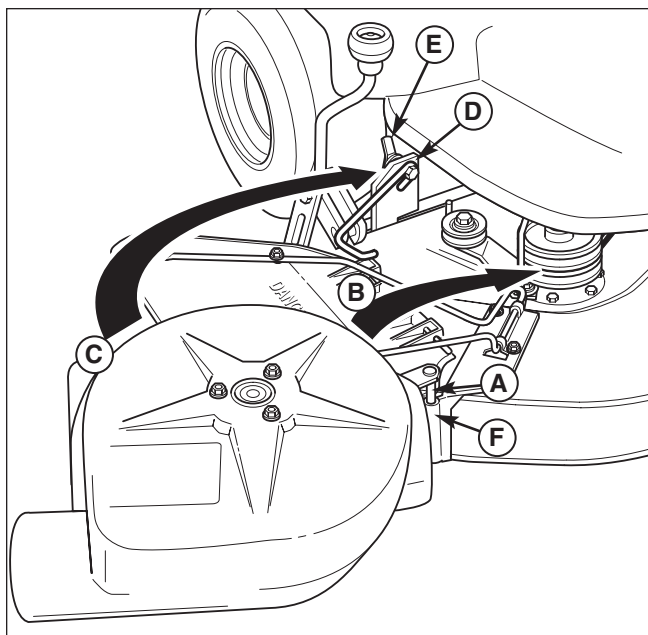
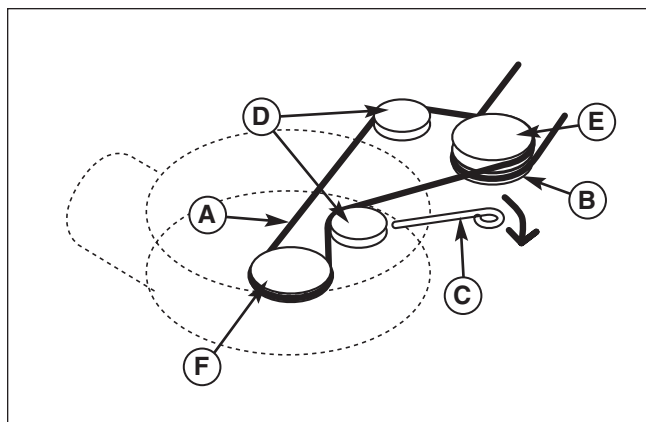
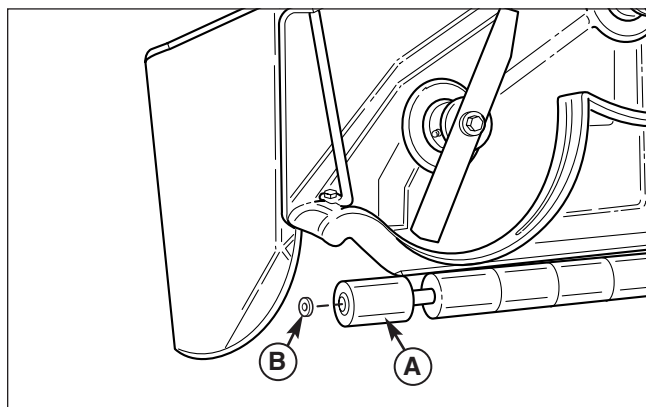

Figure 19. Install Turbo Blower
Figure 20. Turbo Belt Routing
Figure 21. Remove Right Side Pushnut and Roller
2. Slide the pivot pin (A, Figure 19) into pivot bracket (F).
3. Raise the deflector (B).
4. Rotate the turbo (C) and “latch” the slot in the turbo housing over and onto the anchor bracket (D). Tighten the wingnut (E) to secure turbo (C).
5. Attach the mower drive pulley to the mower deck drive pulley (B, Figure 20).
6. Pull back (away from deck) on belt tension lever (C).
7. Install the turbo drive belt on pulleys as shown and release the belt tension lever (C).
8. **Models With Rollers** - Remove and discard the pushnut (B, Figure 21) and roller (A) from the right side of mower deck as shown.